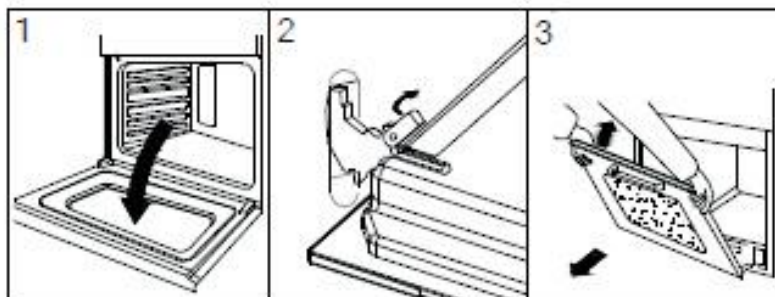

Figure 35
- Pull the door towards you, pulling it out of its seat. Door will gently come away from the oven. (See Figure 35)